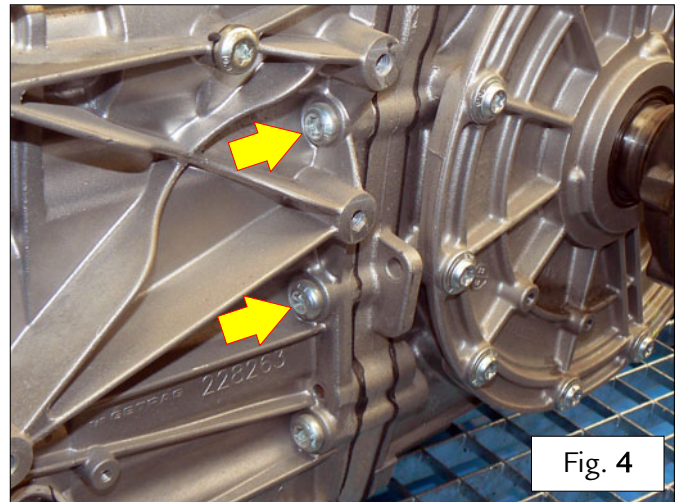

Fig. 4
- On the right hand side of the DCT gearbox, undo and remove the indicated screws – Fig. 4.
➤ Remove the adapter (3) – Fig. 4.